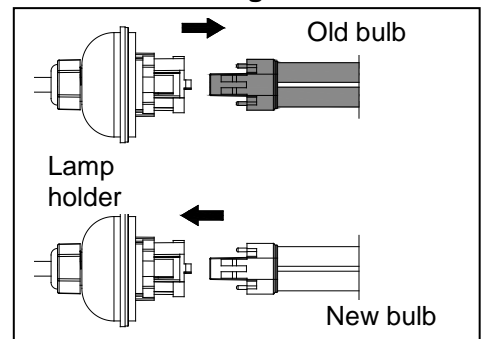

Fig. 9
3. Carefully remove the old bulb by firmly pulling on the base. Carefully install the new bulb. Fig. 9